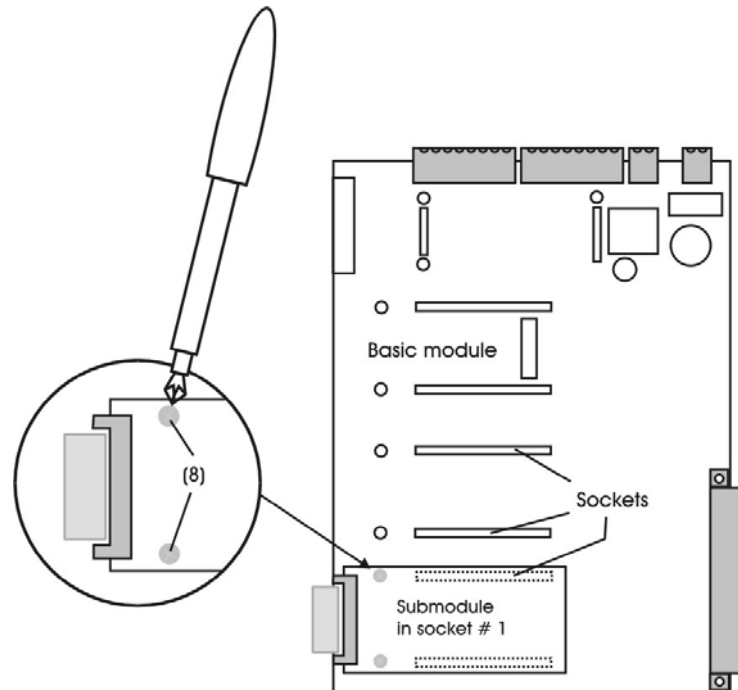

Fig. 23: Removing the submodule from the basic module
Unscrew both screws (8) using a Philips screwdriver (refer to Fig. 23).